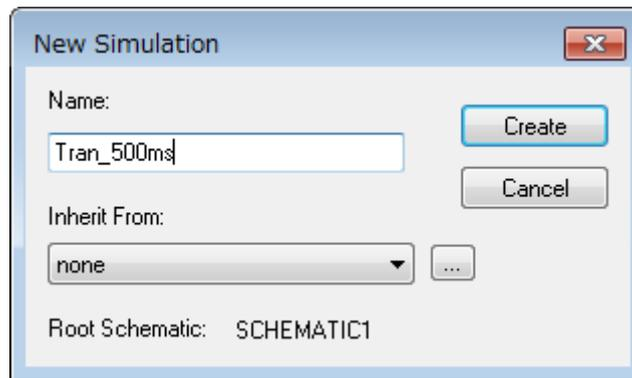

Fig. 5.2 New Simulation dialog box
1. From the menu bar of OrCAD® Capture, select **PSpice - New Simulation Profile**. Then, the New Simulation dialog box shown in Fig. 5.2 appears. Enter an arbitrary profile name and click **Create**.